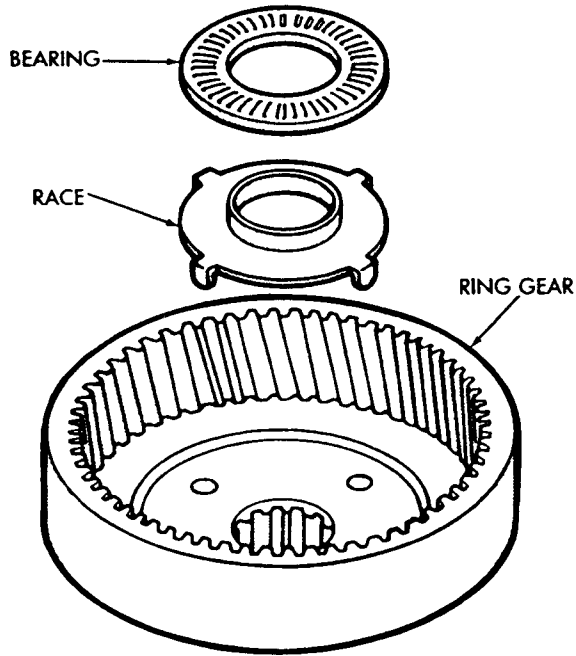

Fig. 22 Install Ring Gear Bearing And Race
(6) Install hub in planetary ring gear and install snap ring.
(7) Coat race and bearing with petroleum jelly and install in planetary ring gear (Fig. 22).